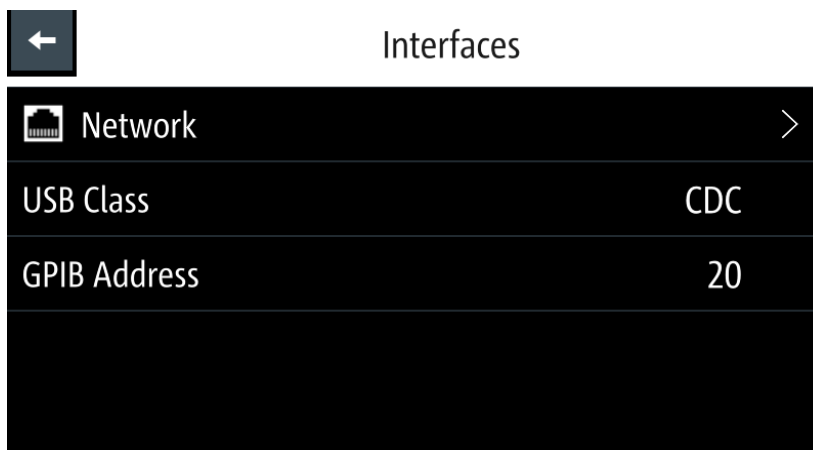

Figure 6-61: Interfaces dialog
1. Select "Network" from the Figure 6-61.